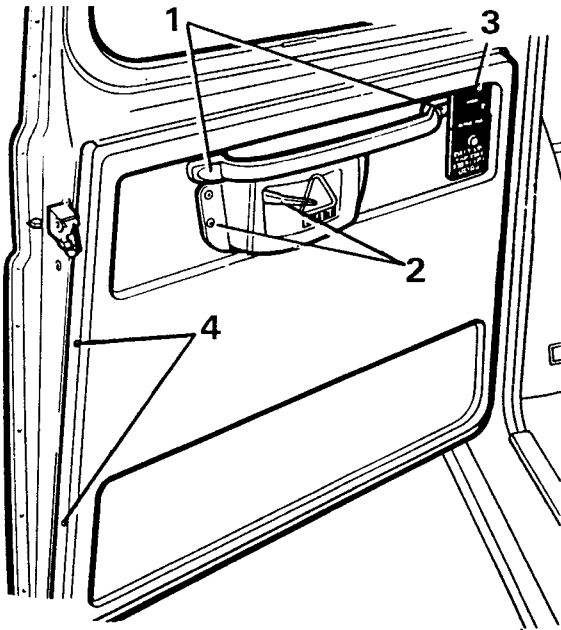

Figure 11
1. Carefully prise out end cappings, remove retaining screws and detach grab handle, see figure 11.